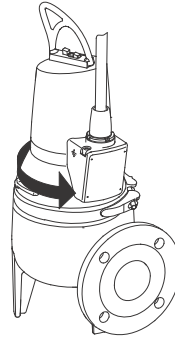

Fig. 11 Jerk direction
3. If connected correctly, the pump will jerk in the opposite direction of the direction of rotation. See fig. 11.